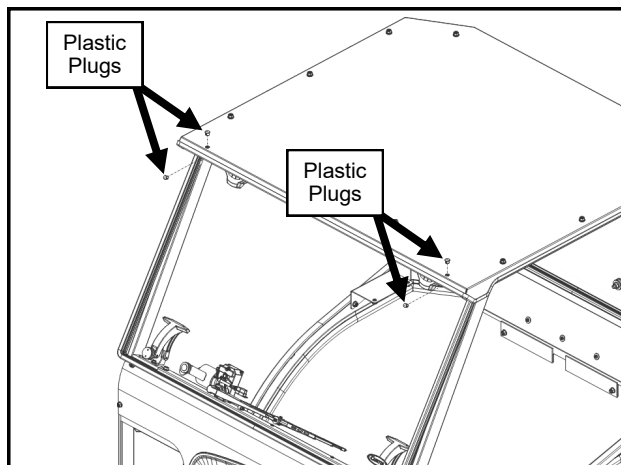

Fig. 22.1 (Install Plugs)
- 22.1** If installing accessories, please do so now. If not, use the supplied plugs to fill any exposed holes in the roof or windshield support. See Figure 22.1.